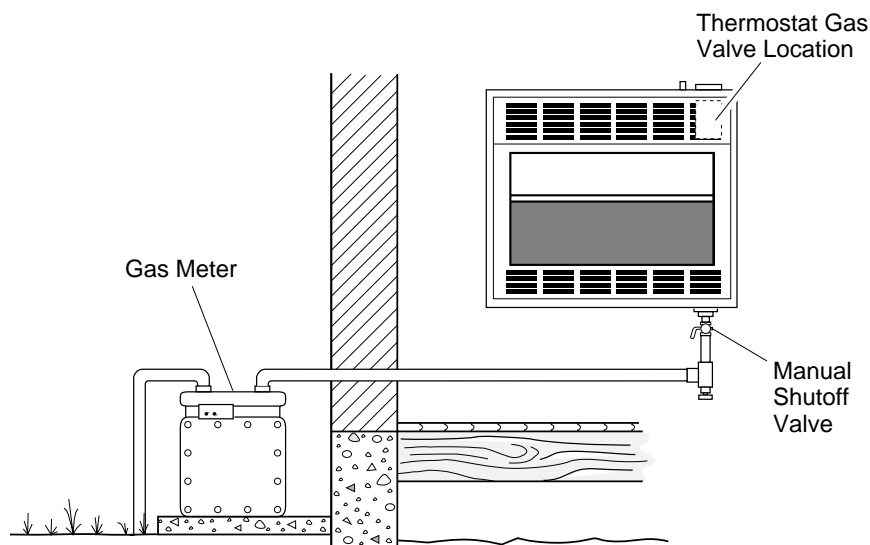

Figure 22 - Checking Gas Joints
3. Check all joints from gas meter to manual shutoff valve (see Figure 22). Apply mixture of liquid soap and water to gas joints. Bubbles forming show a leak.
4. Check all joints from manual shutoff valve to thermostat gas valve (see Figure 22). Apply mixture of liquid soap and water to gas joints. Bubbles forming show a leak.